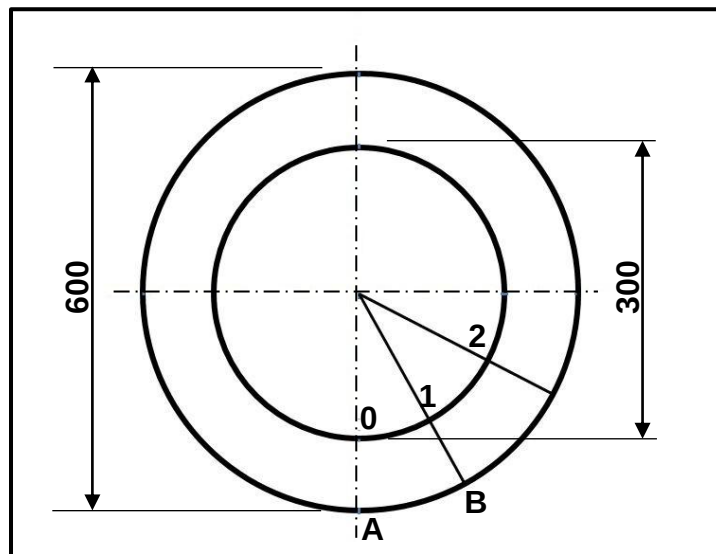

FIGURE 11.3
- (a) A-2 (4)
- (b) A-X (4)
- (c) X-Y (3)
11.3 FIGURE 11.3 below shows the top view of a cone frustrum.